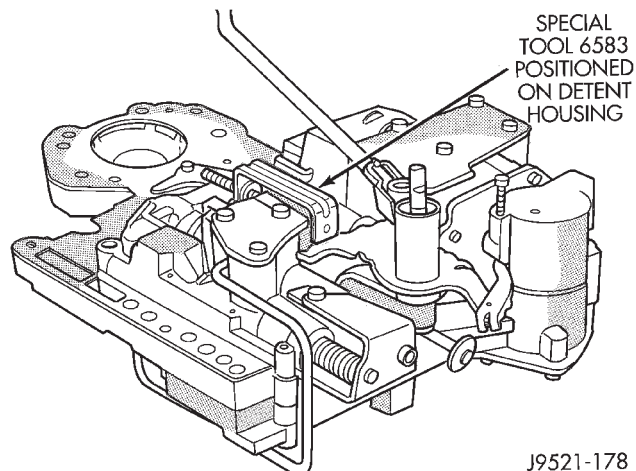
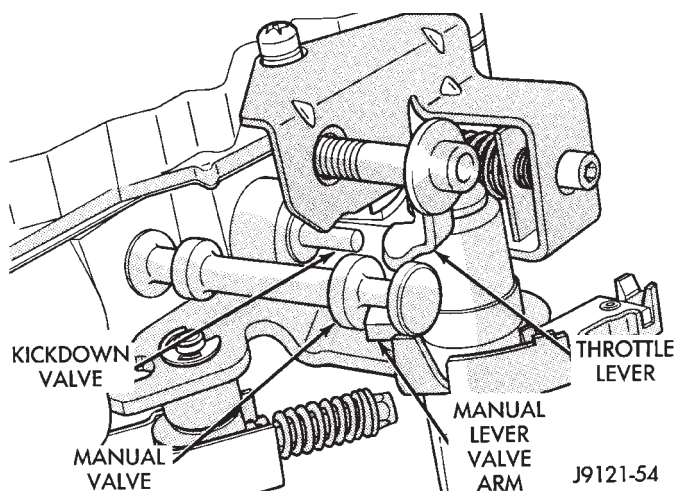

Fig. 114 Detent Ball Spring
Fig. 115 Manual And Throttle Lever Alignment
(1) Insert manual lever detent spring in upper housing.
(2) Position line pressure adjusting screw in adjusting screw bracket.
(3) Install spring on end of line pressure regulator valve.
(4) Install switch valve spring on tang at end of adjusting screw bracket.
(5) Position adjusting screw bracket on valve body. Align valve springs and press bracket into place. Install short, upper bracket screws first and long bottom screw last. Verify that valve springs and bracket are properly aligned. Then tighten all three bracket screws to 4 N·m (35 in. lbs.) torque.
(6) Install throttle lever in upper housing. Then install manual lever over throttle lever and start manual lever into housing.
(7) Position detent ball on end of spring. Then hold detent ball and spring in detent housing with Retainer Tool 6583 (Fig. 114).
(8) Align manual lever with detent ball and manual valve. Hold throttle lever upward. Then press down on manual lever until fully seated. Remove detent ball retainer tool after lever is seated.
(9) Then Install manual lever seal, washer and E-clip.
(10) Lubricate solenoid case connector O-rings and shaft of manual lever with light coat of petroleum jelly.
(11) Verify that throttle lever is aligned with end of kickdown valve stem and that manual lever arm is engaged in manual valve (Fig. 115).
(12) Install boost valve, valve spring, retainer and cover plate. Tighten cover plate screws to 4 N·m (35 in. lbs.) torque.
(13) Obtain new fluid filter for valve body but do not install filter at this time.